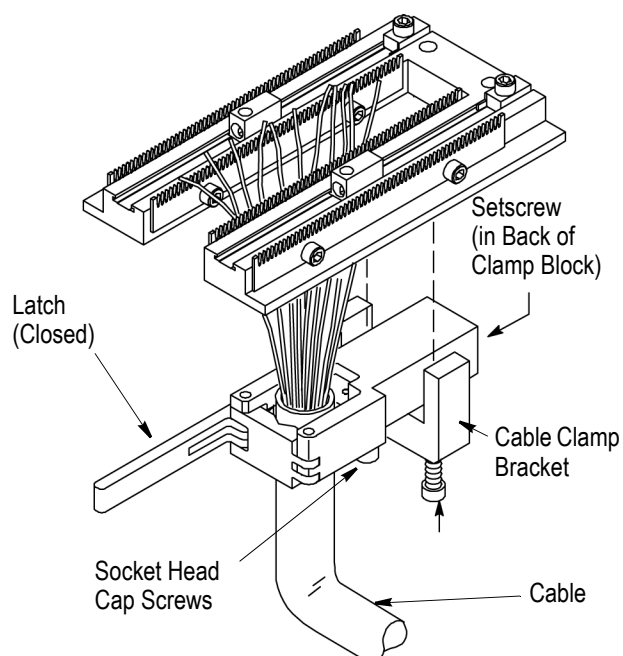

Figure 7
5. Open the cable clamp by opening the latch. Refer to Figure 7.
NOTE  If the clamp is too tight or too loose, adjust the clamp by moving the jaw using the setscrew located in the back of the clamp block. Refer to Figure 7.
8. Position the cable clamp so that the cable bundle is centrally located on the termination cover. To position the clamp, loosen, but do not remove, the socket head cap screws in the cable clamp bracket and slide the clamp to the desired position. Refer to Figure 7.